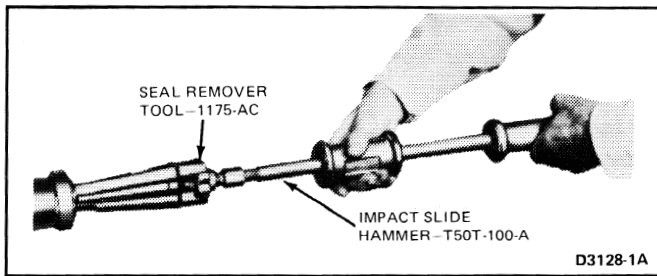
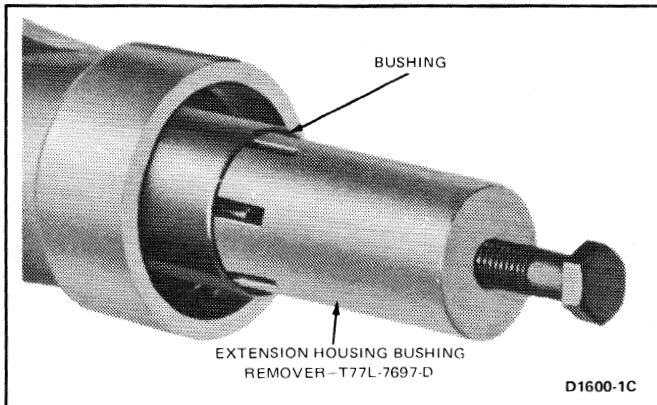

FIG. 11 Removing Extension Housing Seal
FIG. 12 Removing Extension Housing Bushing
2. When only the rear seal needs replacing, carefully remove it with a tapered chisel or the tools, T50T-100-A and TOOL-1175-AC, shown in Fig. 11. Remove the bushing using Tool T77L-7697-D as shown in Fig. 12. **Use the bushing remover carefully so that the spline seal is not damaged.**